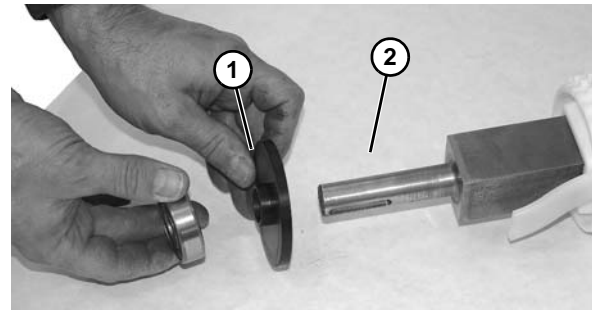

Figure 70
- Remove washer (**Figure 70, item 1**), as shown, making note of flange area (**Figure 70, item 2**) of washer. Repeat on opposite side, if needed.